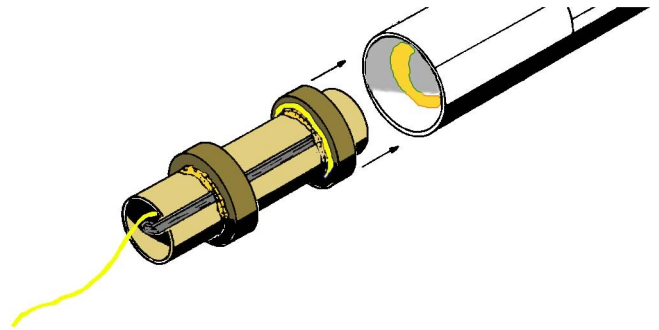

Figure 8
- **Step 46** Pull the Kevlar thread down through the center of the motor mount from the top. As shown in Fig. 8 above, apply a generous bead of glue around the inside of the main body tube, about 2” up from the rear edge. Spread this around with a brush. With one continuous motion, not stopping during the process, insert the motor mount into the main body tube and push forward through the glue until the rear edge of the motor tube is even with the rear edge of the body tube. Do not stop the push during this step as it will allow the glue to “freeze” the mount in the wrong place. Set the body tube in an upright position for about an hour while the glue dries.